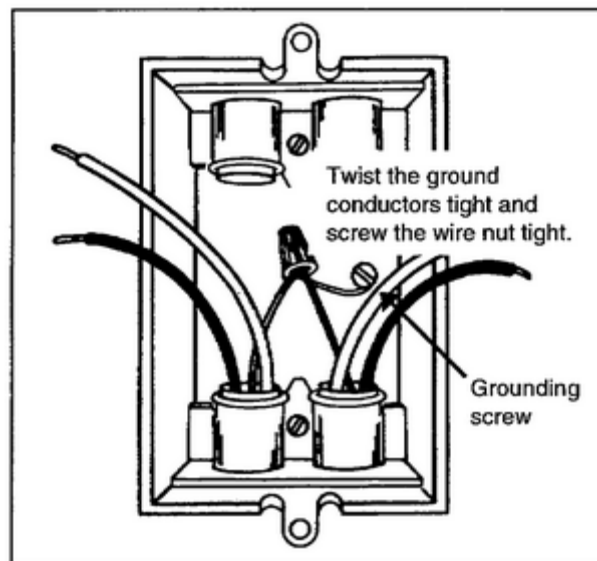
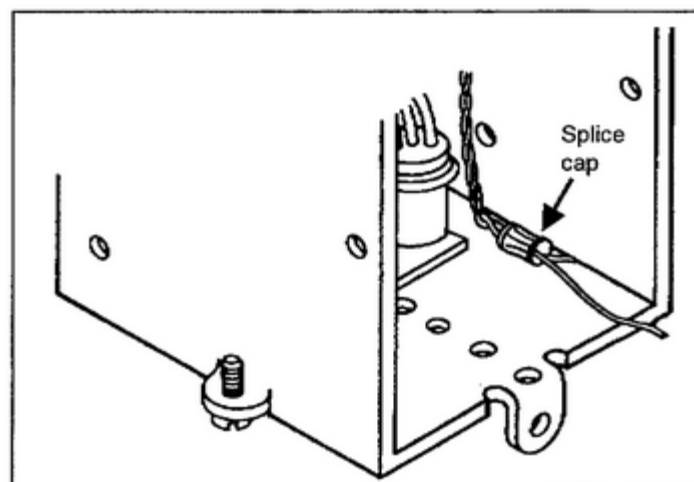

Figure 2-9. Wire nut holding twisted ground conductors
Figure 2-10. Splice cap holding twisted ground conductors
a. When ground conductors are twisted together, they must be secured to prevent them from coming apart. A wire nut (Figure 2-9) or a splice cap (Figure 2-10) can be used to hold the twisted ground conductors together.
b. You can bond the grounding system to the box with a grounding screw, but this screw can have no other purpose than to hold the ground conductor to the box (Figure 2-9, page 2-9).